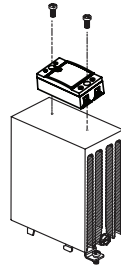

fig. 1 CMD/CMA Series SSR mounted on heat sink^(A)
- CMD/CMA Series Relay mounting slots have a diameter of 0.17 in (4.3 mm). Two screws are needed (not included) to mount the SSR onto heat sink (See fig. 1).